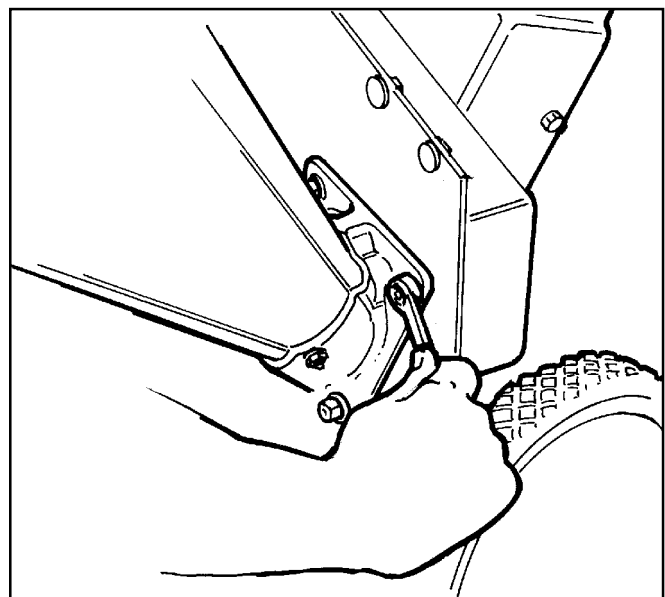

Figure 17. Removing Chipper Cone to Expose Chipping Knives
3. See Figure 17. Using an 1/2" box wrench or socket remove the chipper cone to expose the oval chipping block and one chipping knife.